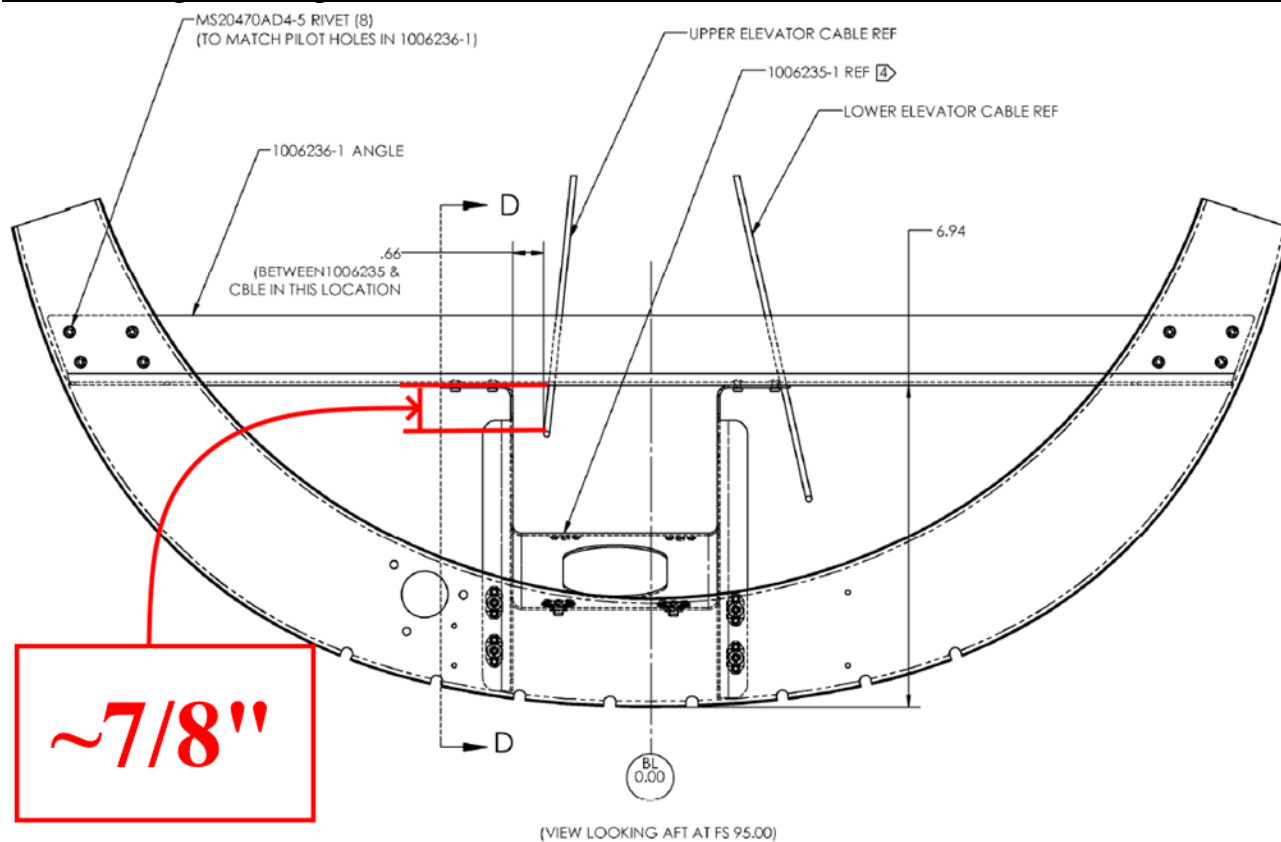

FIGURE C- 4 ANGLE TO UPPER PITCH CABLE CLEARANCE
3. Position the 1006236 angle such that the upper pitch cable is approximately $7/8''$ (0.875'') below the 1006236 angle. Refer to Figure C-4.